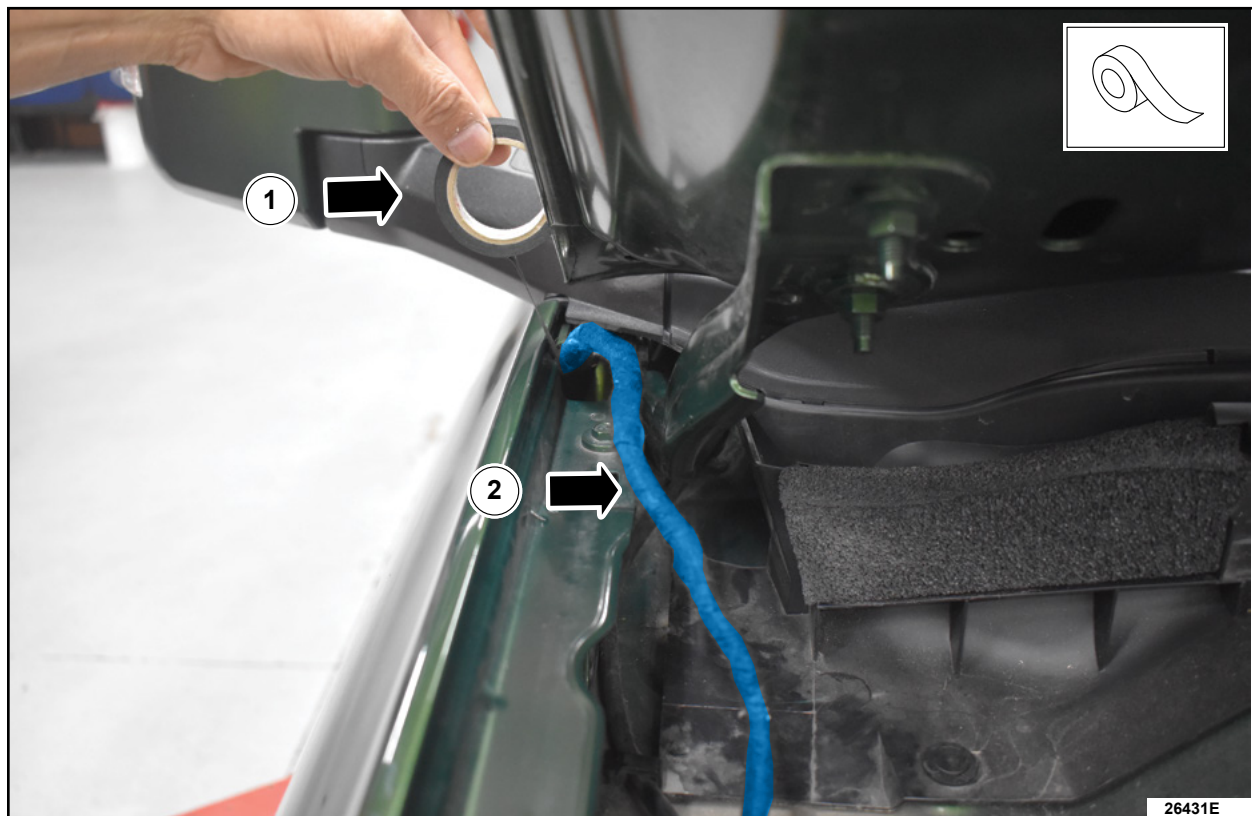

FIGURE 5
7. Using the Coroplast tape, wrap the exposed area of the harness from Step 4 all the way back to the pigtail (retainer 2 from Figure 3). Make sure to fully cover the wires and that there will be enough clearance to put the wire harness back in between the fender and the hood hinge. See Figure 5.